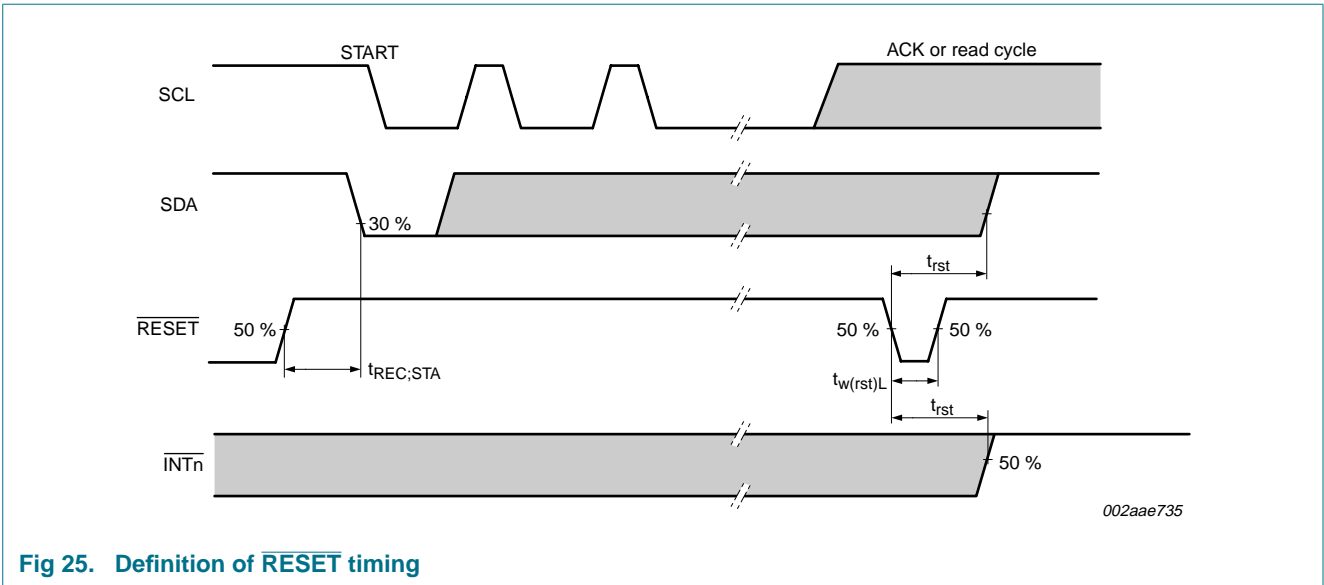

Fig 25. Definition of RESET timing
Modifications:	<ul style="list-style-type: none"> <li>• Type numbers PCA9541D//02, PCA9541PW/02 and PCA9541BS/02 are withdrawn; this affects:                             <ul style="list-style-type: none"> <li>– <a href="#">Section 1 “General description”</a>, 2nd paragraph modified; (old) 11th paragraph deleted</li> <li>– <a href="#">Section 2 “Features”</a>, (old) 4th bullet item deleted</li> <li>– <a href="#">Table 1 “Ordering information”</a> modified</li> <li>– <a href="#">Table 2 “Marking codes”</a> modified</li> <li>– <a href="#">Figure 2</a>, <a href="#">Figure 3</a> and <a href="#">Figure 4</a> modified</li> <li>– <a href="#">Table 6 “Register 0 - Interrupt Enable (IE) register bit description”</a>, <a href="#">Table note [1]</a> modified</li> <li>– <a href="#">Table 8 “Register 1 - Control Register (B1:B0 = 01b) bit description”</a>, <a href="#">Table note [1]</a> modified</li> <li>– <a href="#">Table 11 “Default Control Register values”</a> modified</li> <li>– <a href="#">Table 14 “Register 2 - Interrupt Status (ISTAT) register bit description”</a>, <a href="#">Table note [1]</a> modified</li> <li>– <a href="#">Section 8.5 “Power-on reset”</a>, (old) 2nd bullet item deleted</li> <li>– <a href="#">Section 8.6 “External reset”</a>, (old) 2nd bullet item deleted</li> <li>– <a href="#">Section 10.2 “High reliability systems”</a>, 1st paragraph modified</li> </ul> </li> <li>• (Old) <a href="#">Table 16 “Static characteristics (2.3 V to 3.6 V)”</a> and (old) <a href="#">Table 17 “Static characteristics (3.6 V to 5.5 V)”</a> are merged.</li> <li>• <a href="#">Table 16 “Static characteristics”</a>, sub-section “Supply”:                             <ul style="list-style-type: none"> <li>– Istb (Typ) at condition VDD = 2.3 V to 3.6 V changed from “10 μA” to “30 μA”</li> <li>– Istb (Max) at condition VDD = 2.3 V to 3.6 V changed from “100 μA” to “80 μA”</li> <li>– Istb (Typ) at condition VDD = 3.6 V to 5.5 V changed from “10 μA” to “40 μA”</li> <li>– Istb (Max) at condition VDD = 3.6 V to 5.5 V changed from “200 μA” to “100 μA”</li> </ul> </li> <li>• <a href="#">Table 16 “Static characteristics”</a>, sub-section “Input SCL_MSTn; input/output SDA_MSTn (upstream and downstream channels):                             <ul style="list-style-type: none"> <li>– for condition VDD = 3.6 V to 5.5 V, deleted IIL and IIH specifications (was in old <a href="#">Table 17</a>)</li> </ul> </li> <li>• <a href="#">Table 16 “Static characteristics”</a>, sub-section “Select inputs A0 to A3, INT_IN, RESET”:                             <ul style="list-style-type: none"> <li>– for condition VDD = 3.6 V to 5.5 V, ILI (Max) changed from “+50 μA” to “+1 μA” (from old <a href="#">Table 17</a>)</li> </ul> </li> <li>• <a href="#">Table 16 “Static characteristics”</a>, sub-section “Pass gate”:                             <ul style="list-style-type: none"> <li>– for condition VDD = 3.6 V to 5.5 V, IL (Max) changed from +100 μA to +1 μA (was in old <a href="#">Table 17</a>)</li> </ul> </li> <li>• <a href="#">Figure 25 “Definition of RESET timing”</a> modified:                             <ul style="list-style-type: none"> <li>– changed signal name from “LEDx” to “INTn”</li> <li>– deleted “LED off”</li> </ul> </li> </ul>